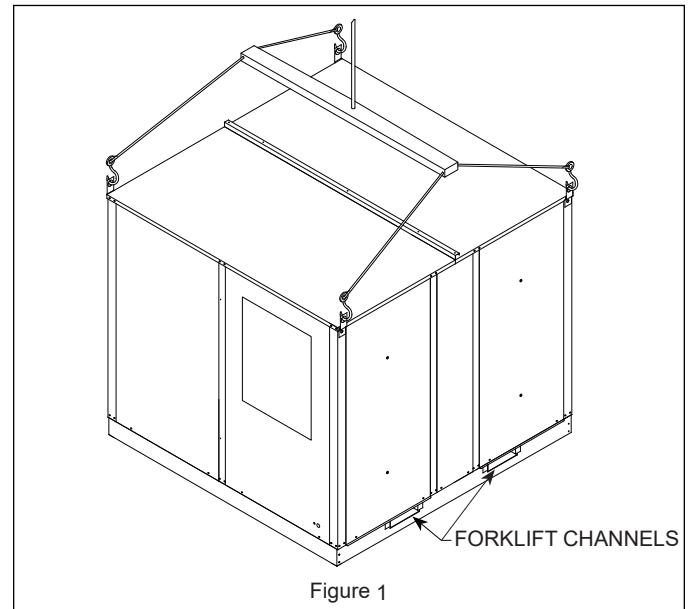

Figure 1
6. Forklift channels (if used) must be removed from the base of the ERV before setting unit on curb. See Figure 1.